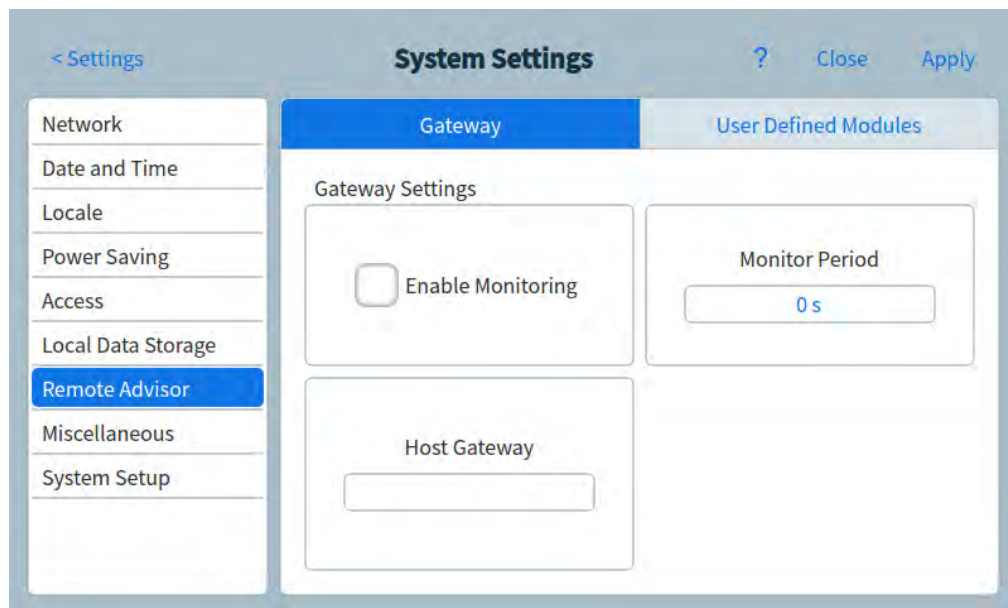

Figure 48. Remote Advisor page
- 1 From the System Settings page, select the **Remote Advisor** page selection button. The Remote Advisor page appears. See **Figure 48**.